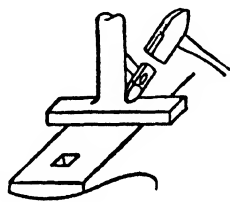

FIG. 36
7. When forming a square shoulder with the fuller, slant the top of it slightly away from the shoulder. Fig. 36.